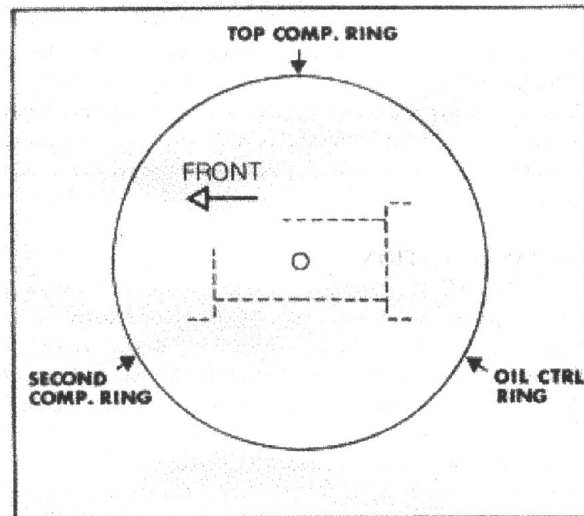

FIGURE 32 - PISTON RING GAP LOCATIONS
5. Position the gaps of the piston rings as shown in Figure 32.